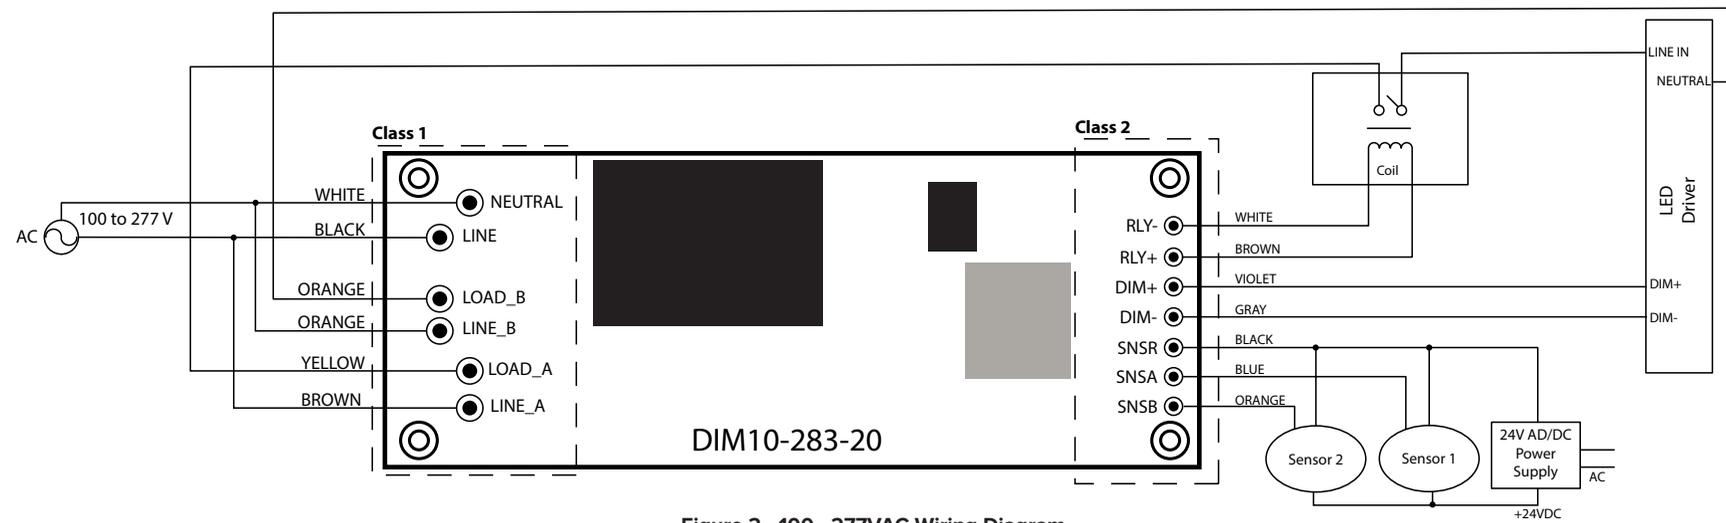

Figure 2 - 100 - 277VAC Wiring Diagram
**FOR 100 TO 277VAC INSTALLATION (FIG. 2)**